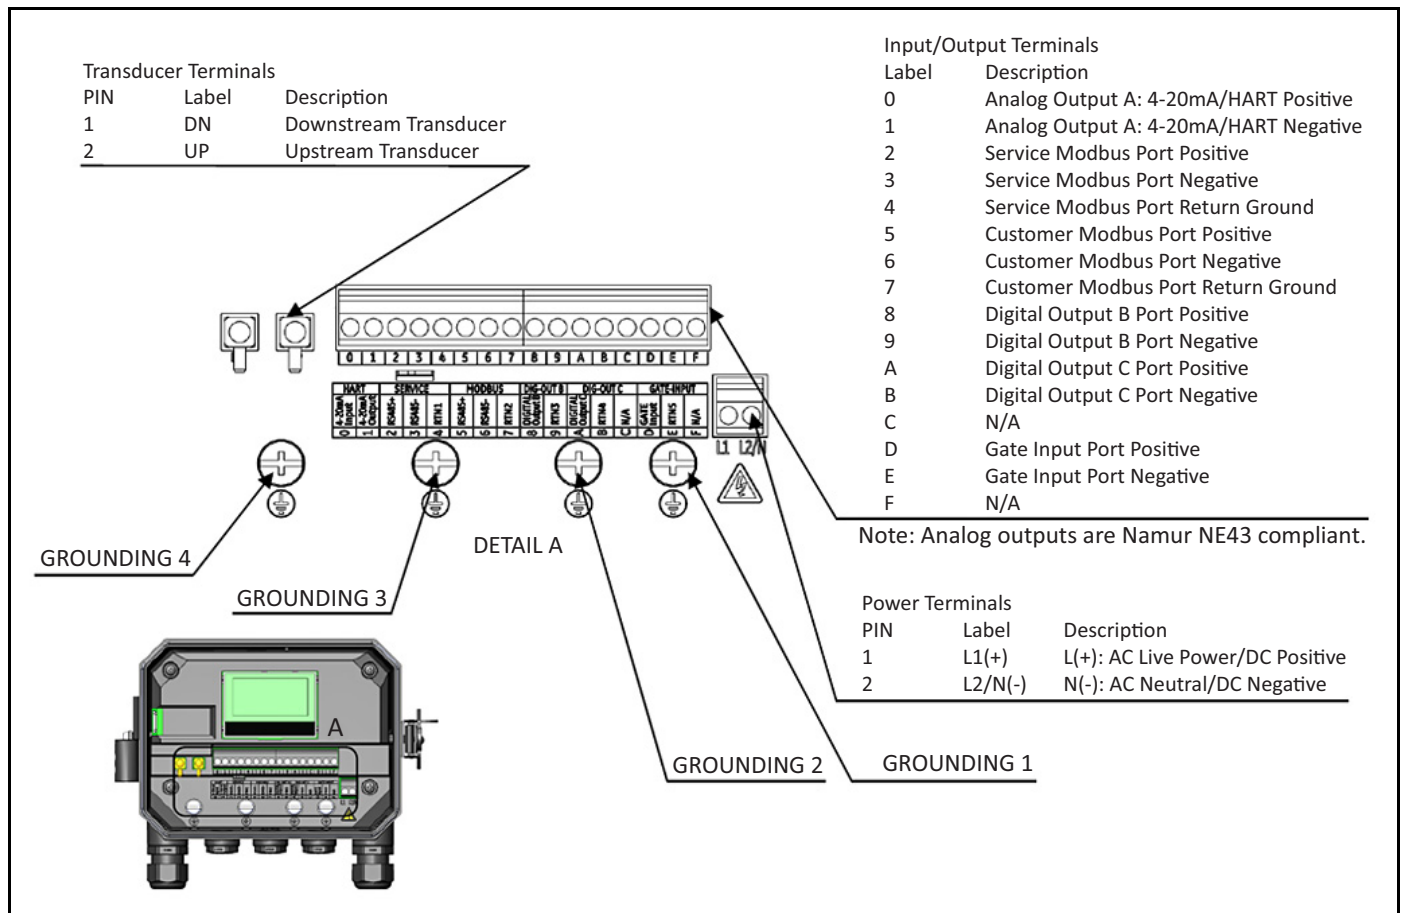
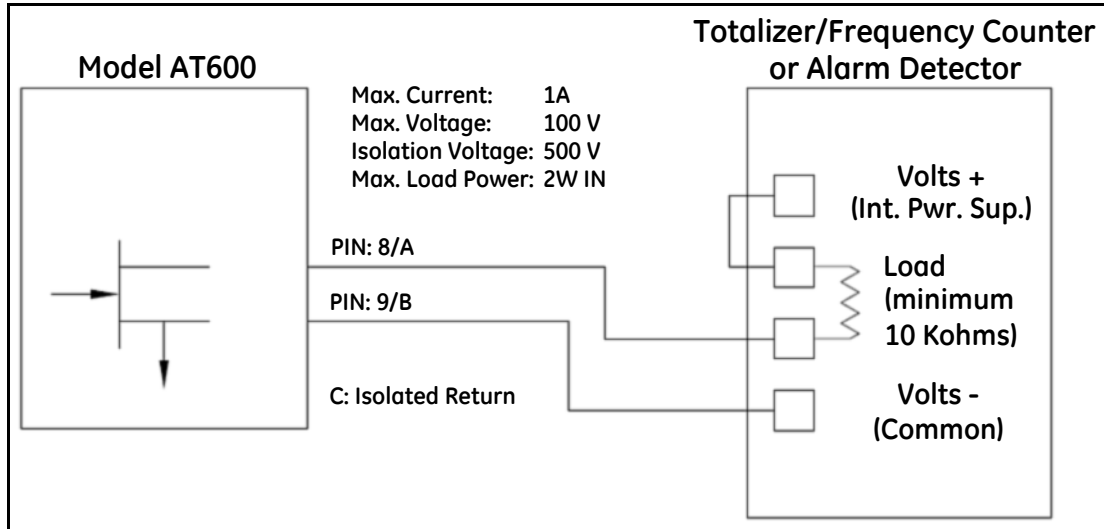
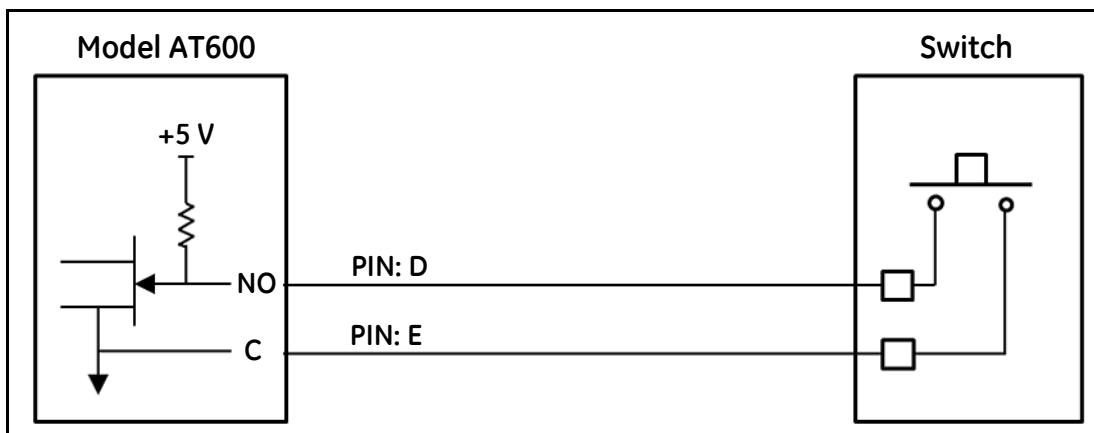

Figure 23: Wiring Diagram
Figure 28: Totalizer/Frequency/Alarm Output Wiring
Figure 29: Gate Input Wiring
2. Connect the power and transducer cables to the AT600, as shown in *Figure 23* on page 21.
This section includes instructions for making all the necessary electrical connections to the AT600 flow meter. Refer to *Figure 23* below for the complete wiring diagram of the meter.
Refer to *Figure 23 on page 21* to locate the terminal block and connect the line power as follows:
2. Connect the ground lead to the internal ground connection (GROUNDING 1) located on the bottom panel of the electronics enclosure (See *Figure 23 on page 21*).
3. Connect the neutral AC lead (or the negative - DC lead) to L2/N(-) and the AC line lead (or the positive DC lead) to L1(+), as shown in *Figure 23 on page 21*.
2. Connect the cable connector with *yellow* DN jacket on the cable to the DN terminal, and connect cable connector with *white* UP jacket on the cable to the UP terminal, as shown in *Figure 23 on page 21*.
3. Refer to *Figure 23 on page 21* for the location of terminal block I/O, and wire the terminal block as shown above.
To wire the Modbus RS485 serial port, refer to *Figure 23 on page 21* above and complete the following steps:
Each totalizer/frequency/alarm output requires a twisted pair cable. Wire the terminal block as shown in Figure 23 on page 21 and Figure 28 below.
To wire the Gate input, refer to *Figure 23 on page 21* and Figure 29 below and complete the following steps: